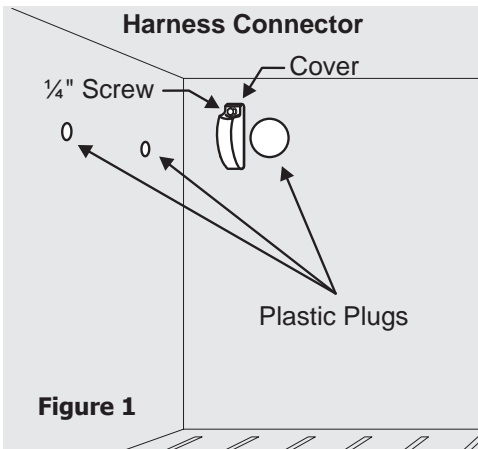

Figure 1
4. Use a plastic putty knife to remove plugs from inside freezer compartment. (See Figure 1.)
5. Remove the harness connector cover, where the ice maker will plug into, by removing the 1/4 inch hex head screw. (See Figure 1.)